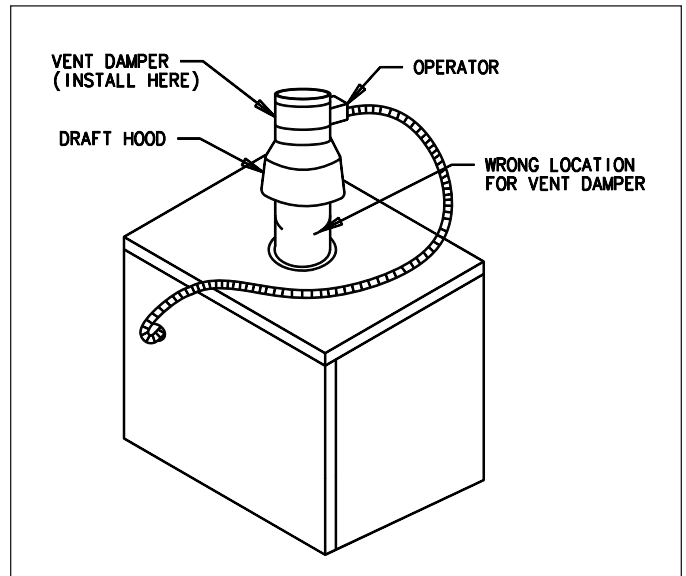

Figure 1. Vertical installation of vent damper on Galaxy Boilers
4. Select a proper, convenient location (see figures 1 & 2).
- B. 1. This device must be installed after the appliance draft hood (between the draft hood outlet and the connector to the outdoor chimney or vent) as close to the draft hood as practicable, and without modification of the draft hood or the damper. (See figures 1 & 2.)
2. Separate the vent pipe directly on top of the draft hood and place damper in position as shown in figures 1 & 2. The vent damper must be installed so that the damper position indicator is in a visible location after installation. The arrow imprint on the damper should point in direc-